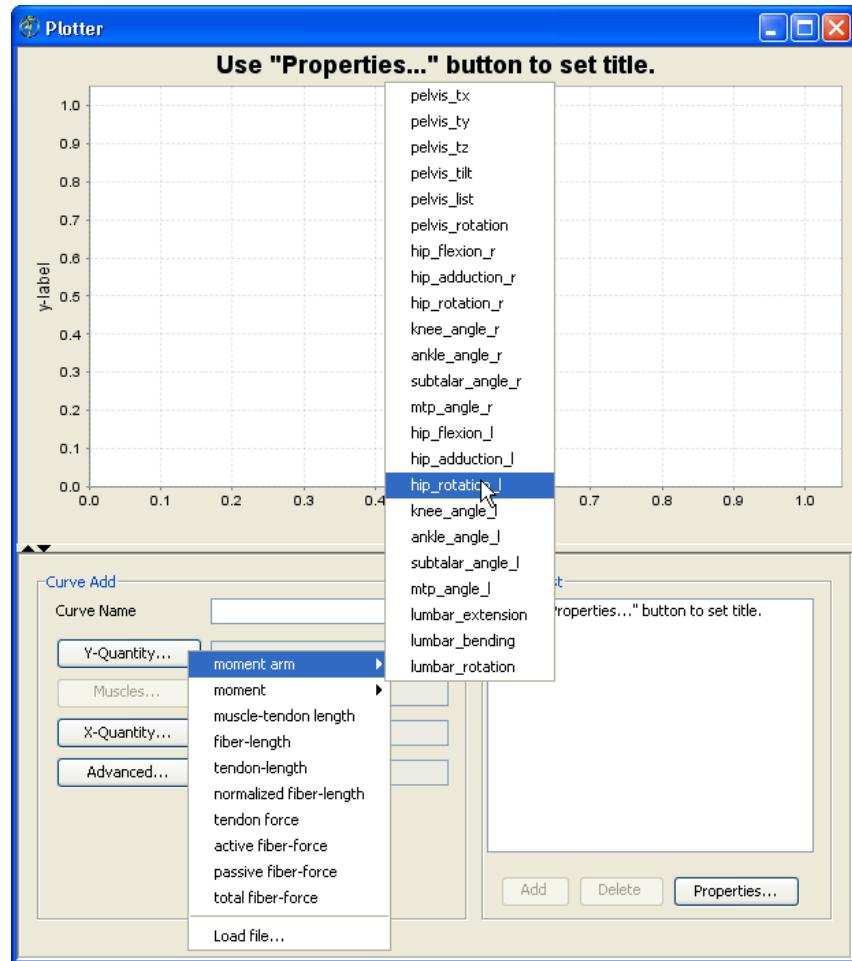

Figure 13.9: Y-Quantity Menu
1. Select the quantity that you want to plot along the Y-axis by clicking the **Y-Quantity...** button. A drop down menu will appear, displaying available options (Figure 13.9). The options will vary, depending upon the data source (i.e., from an OpenSim analysis or an external source).